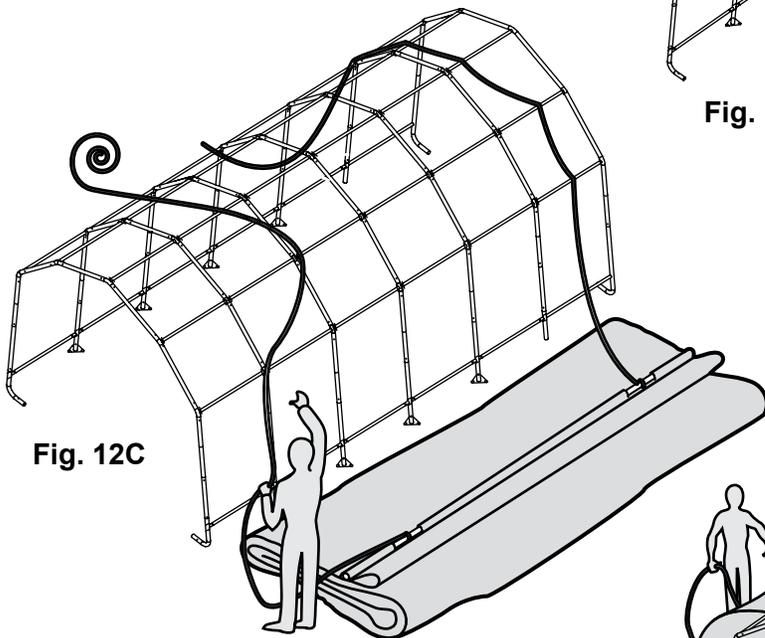

Fig. 12C
3. Tie the rope on each of the exposed pipes and throw the other end of the rope over the frame. Fig. 12C